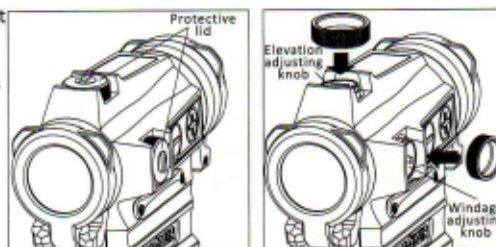

Fig6
- On top of sight is the elevation adjusting turret, windage adjusting turret is on the right side (see Fig6). The sight has been factory adjusted for approximate zero.
2. The built in screw driver tool on the protective cap can be used for zeroing adjustment (see Fig6). See label inside cap.